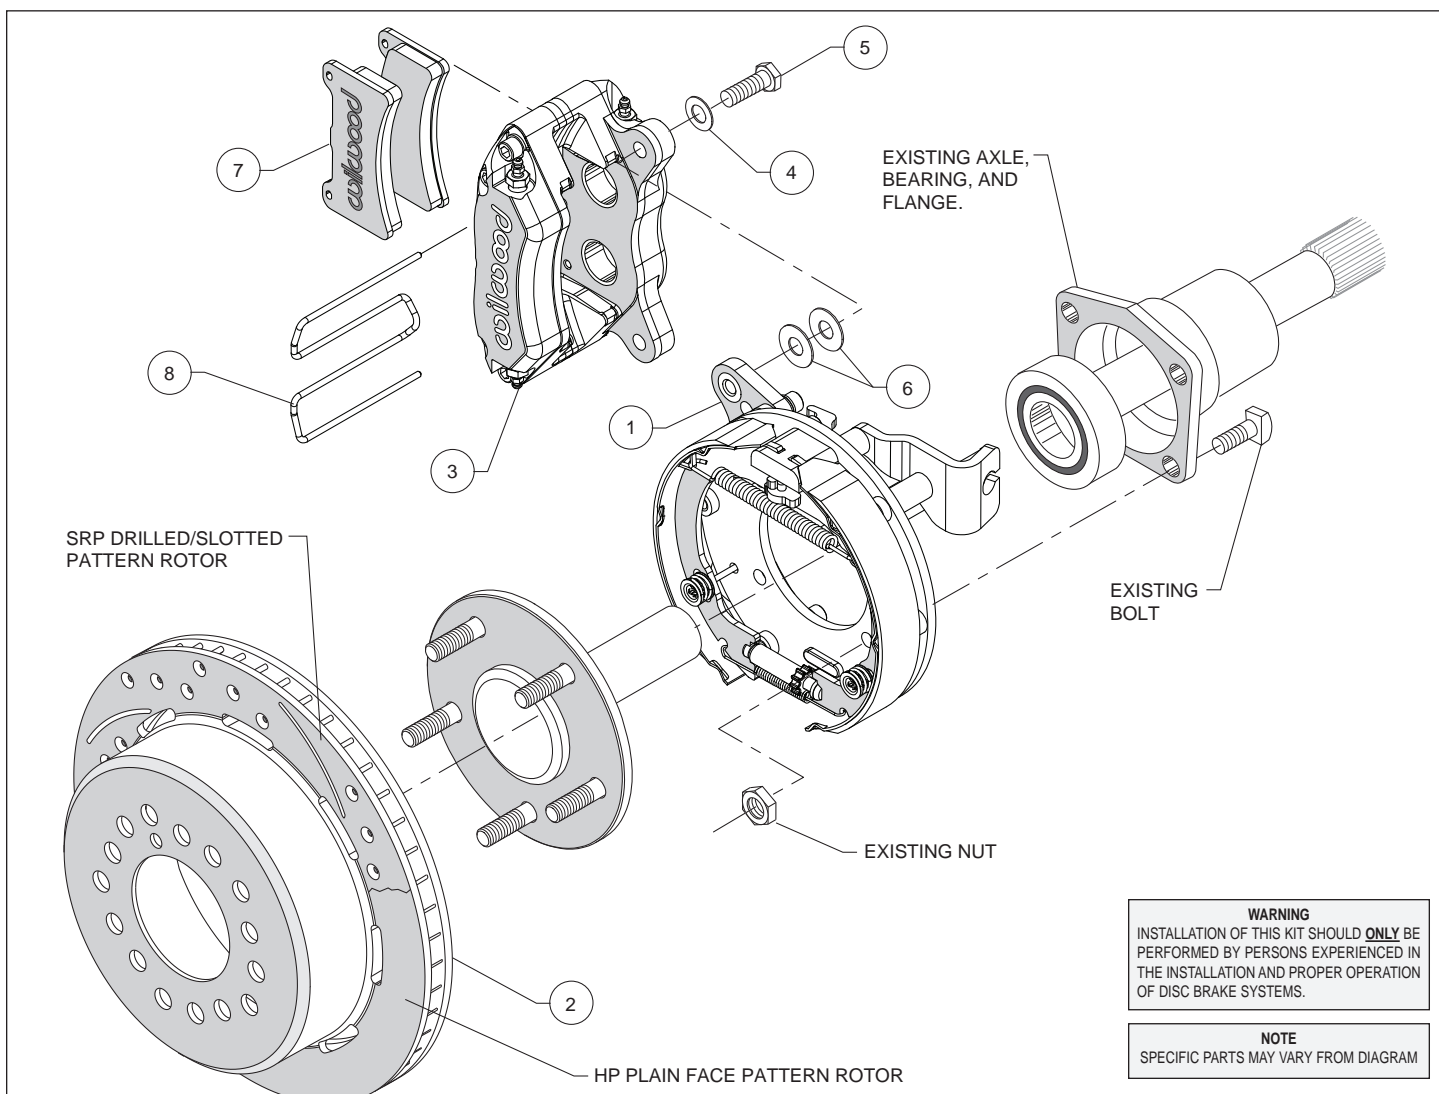
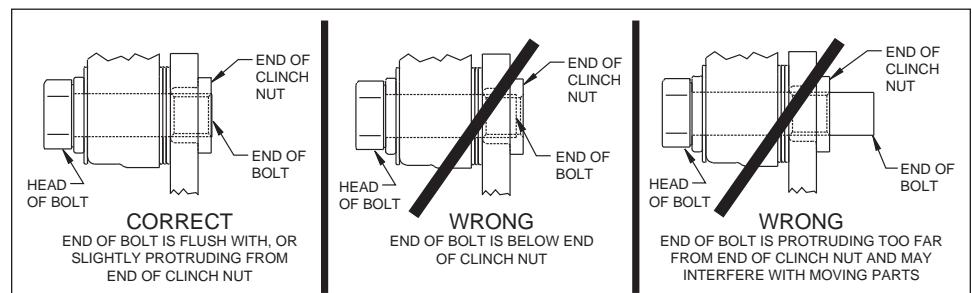

Figure 1. Typical Installation Configuration
Figure 4. Clinch Nut Engagement Diagram
Assembly Instructions (numbers in parenthesis refer to the parts list, and Figure 1 on the preceding pages): **CAUTION:** All mounting bolts must fully engage clinch nuts. Be sure to check that all bolts are either flush or protruding through flanged side of clinch nut after shimming, Figure 4.
- Orient the bracket assembly (1), as shown in Figure 1, and mount to the axle housing flange using the Original Equipment Manufacturer (OEM) bolts and nuts, Figure 1. Ensure that the bracket assembly backing plate fits flush against the axle housing flange. Apply red *Loctite*® 271 to the OEM bolt threads and torque to OEM specifications.
- Align the correct hole pattern in the rotor/hat (2) with the stud pattern on the axle flange and slide into place, Figure 1 and Photo 1. **NOTE:** The rotor/hat must fit flush against the axle flange or excessive rotor run out may result. Install three lug nuts (finger tight) to keep the rotor/hat assembly in place while continuing with the installation. **NOTE:** Some OEM and after market axles come with stud sizes larger than 0.50" diameter. Verify stud size and have a qualified machine shop drill the bolt circle of the hat/rotor to the correct stud size, if necessary.
- **NOTE:** Please reference the caution statement at the beginning of the assembly instructions. Mount the caliper (3) onto the caliper mounting bracket (1) using bolts (5) and washers (4), as shown in Figure 1. Initially place two .035" thick shims (6) on each bolt between the caliper and the bracket, Photo 2. Temporarily tighten the mounting bolts and view the rotor (2) through the top opening of the caliper.
The rotor should be centered in the caliper, Photo 3. If not, adjust by adding or subtracting shims between the bracket and the caliper. Always use the same amount of shims on each of the two mounting bolts. **NOTE:** The end of each bolt must be flush with or slightly protruding from the head of the clinch nut, as shown in Figure 4. If necessary place spare shims between washer (4) and caliper mounting ear to achieve the proper clinch nut engagement. Once the caliper alignment and clinch nut engagement are correct, remove the bolts one at a time, apply red *Loctite*® 271 to bolt threads, and torque to 40 ft-lb.